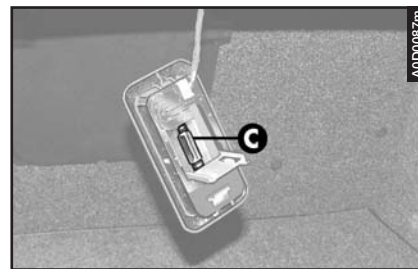

fig. 82
- Remove the snap-fitted bulb **(C- fig. 82)**.